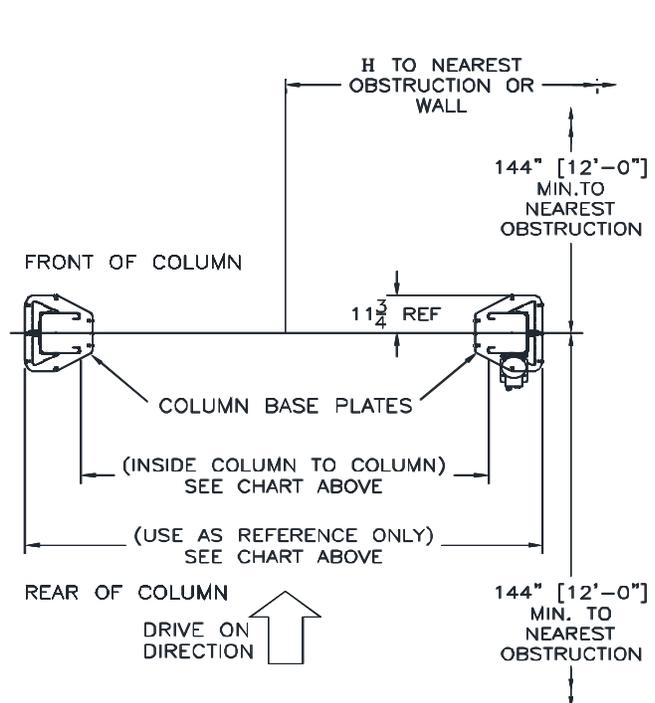

Fig. 1b - Service Bay Layout
- Layout the service bay according to the architect's plans or owner's instructions (**see Fig. 1b**). **Failure to install in this orientation can result in personal and property damage.** Be certain that the proper conditions exist, see page 3.